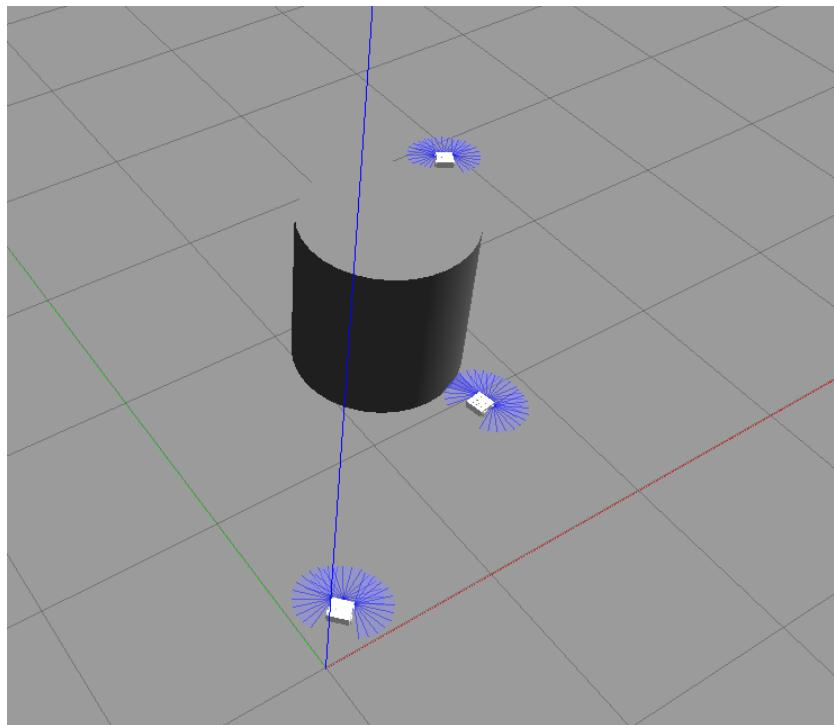

Figure 6: Obstacle avoidance and cylinder placement
- Open a new tab (2) and write 'source devel/setup.sh'
- Open a new tab (3) and write 'source devel/setup.sh'
- You can for example add a cylinder of nominal diameter on position 1.5;1.5 (shown on Figure 6) and run a simulation using the publish.py and my_robot_control_plot.py scripts.